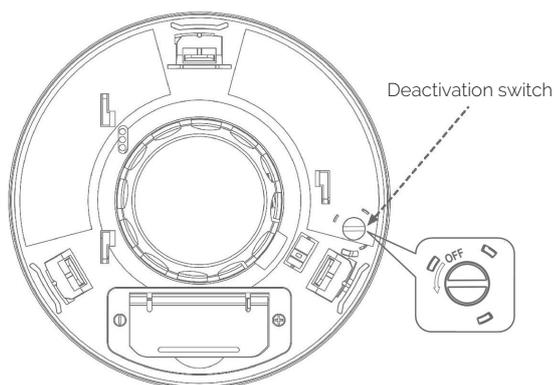

Figure 12: Location of deactivation switch for model
2. Tear off "Deactivation Switch" sticker. The location of deactivation switch show in Figure 12.